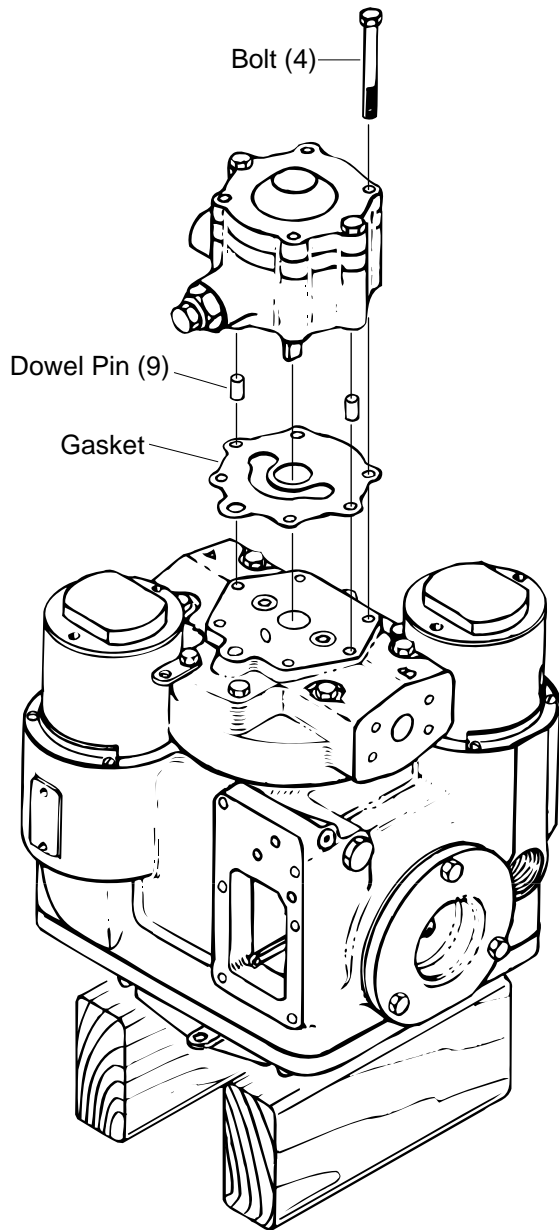

Figure 3
**11** Reposition the pump so the shaft is vertical and the charge pump is on top. Stand the pump on two blocks of wood as shown in figure 3.
**12** Remove the four bolts that hold the charge pump to the end cover, see figure 3. The two remaining bolts hold the charge pump together.
**Note:** Keep track of the dowel pins, see figures 3, 5, and 8. There is a total of nine dowel pins in the pump. It is a good idea to put them in a small box so they don't get lost.